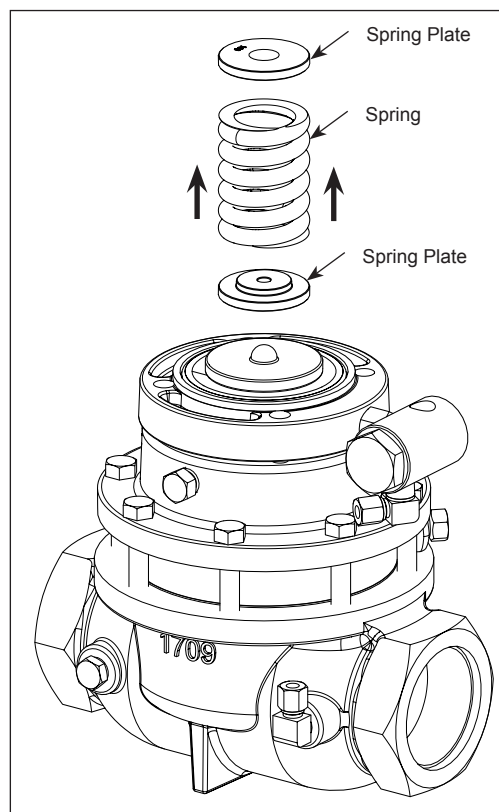

Fig. 4-2
Remove the spring and (2) plates. See Fig. 4-2